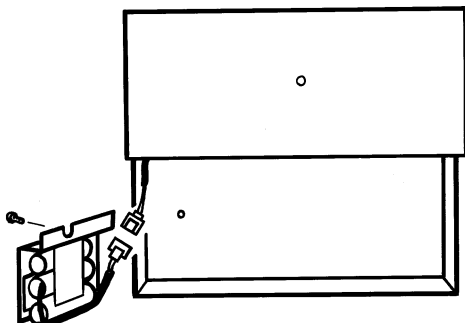

Figure 2.2.2d Battery pack disconnection
7. Disconnect the battery pack as shown in figure 2.2.2d